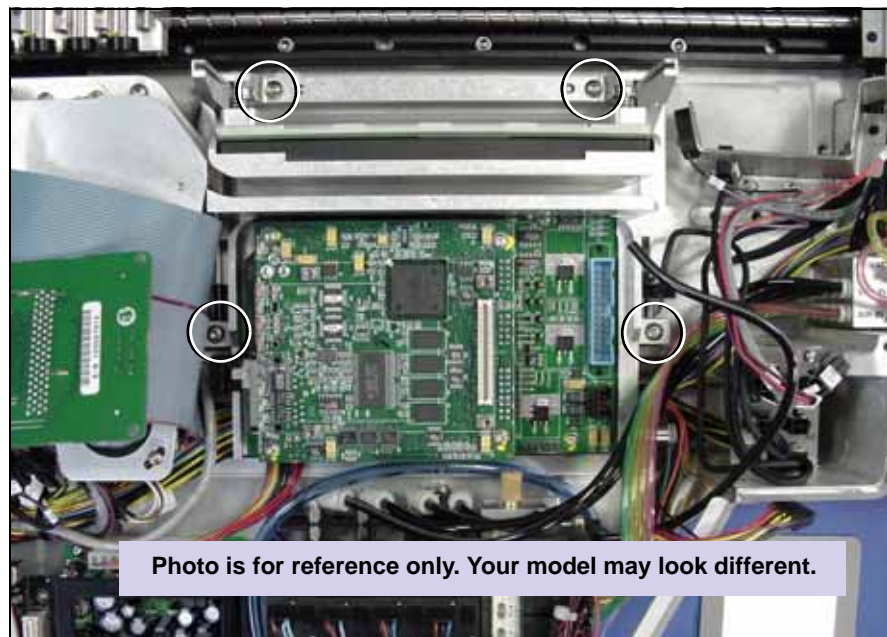
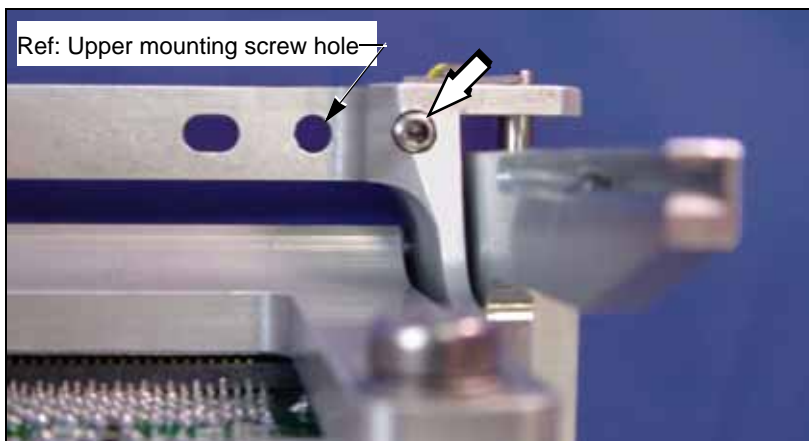

Figure 37—Location of Programmer Screws
Figure 39—Programmer Module Alignment Screws (the screw on the left side is not shown).
**CAUTION:** Chassis can get damaged. Loosen the Programmer Module mounting screws (two upper screws, refer to Figure 37) before each attempt to adjust the Programmer Alignment Screws (refer to Figure 39).